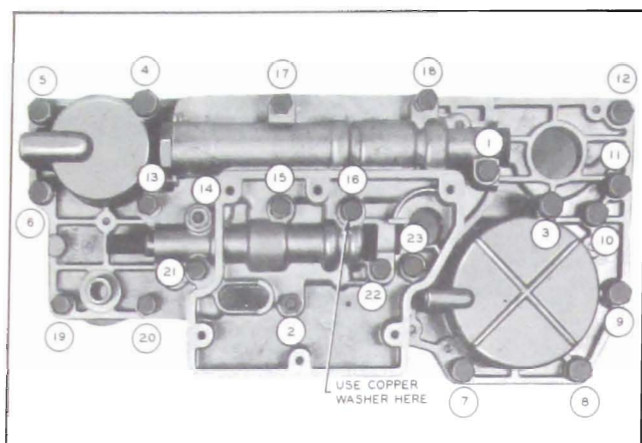

Figure 5-124—Valve and Servo Body Body Tightening Sequence
valve and servo bodies. Use copper washer on bolt indicated in Figure 5-124.
5. Tighten all bolts to 5 ft. lbs. torque in the numerical sequence shown in Figure 5-124. Repeating the same sequence, tighten all 1/4" bolts and nuts to 11-15 ft. lbs. torque and all 5/16" bolts to 15-20 ft. lbs. While tightening bolts and nuts adjacent to the shift control valve, operate the valve to make certain that it is not binding — it may be necessary to adjust some bolts to low limit on torque to prevent valve binding. Install oil screen with 6 slotted head screws.